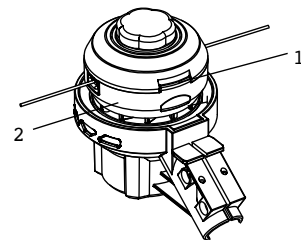

FIG. 11
1. Press the spool locking buttons (1) & (2) on either side of the spool housing (2) (Fig. 11).